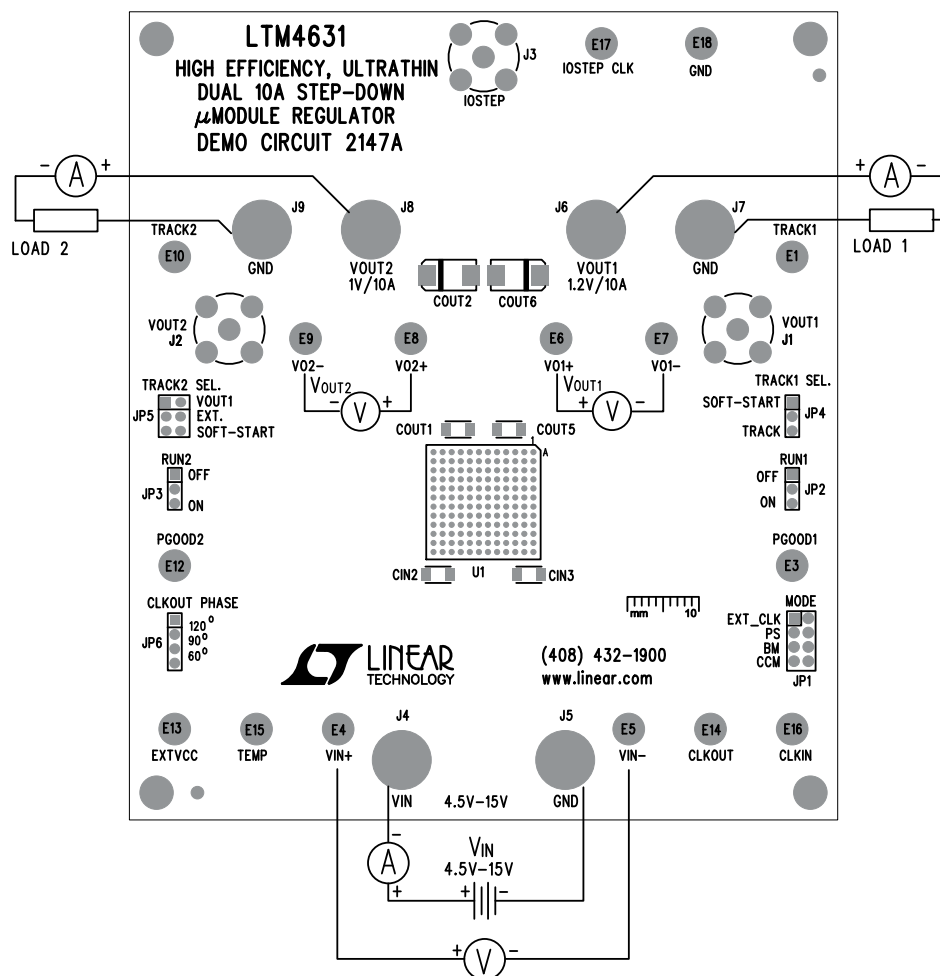

Figure 1. Test Setup of DC2147A
Demonstration circuit 2147A is easy to set up to evaluate the performance of the LTM4631EV. Please refer to Figure 1 for proper measurement setup and follow the procedure below:
2. With power off, connect the input power supply, load and meters as shown in Figure 1. Preset the load to 0A and V_{IN} supply to 12V.